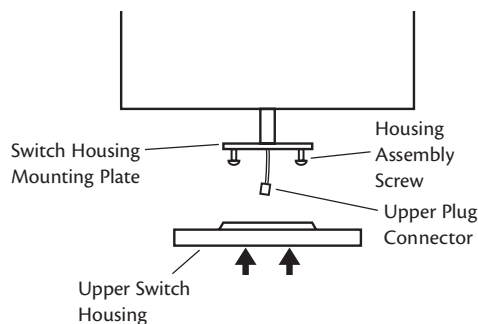

Figure 26 - Attaching the upper switch housing to the mounting plate
1. Partially install two #6-32 x 3/8" housing assembly screws into the switch housing mounting plate as shown in Figure 26.
2. Feed the upper plug connector through the center opening of the upper switch housing. See Figure 26.